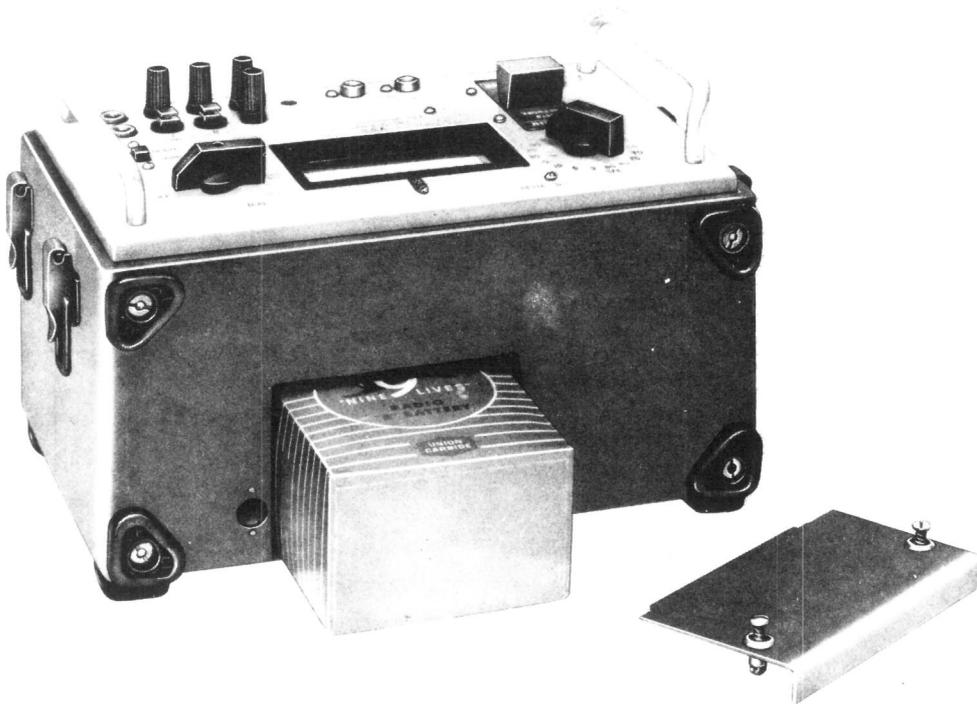

Fig. 11—J94003C Noise Measuring Set Showing Access to Battery
6.01 To remove the battery in the 3C NM set, unscrew the captive screws and remove the cover plate as shown in Fig. 11. Slide the battery out of the compartment and remove the battery plug from the old battery. Replace the battery with a new equivalent battery listed below: